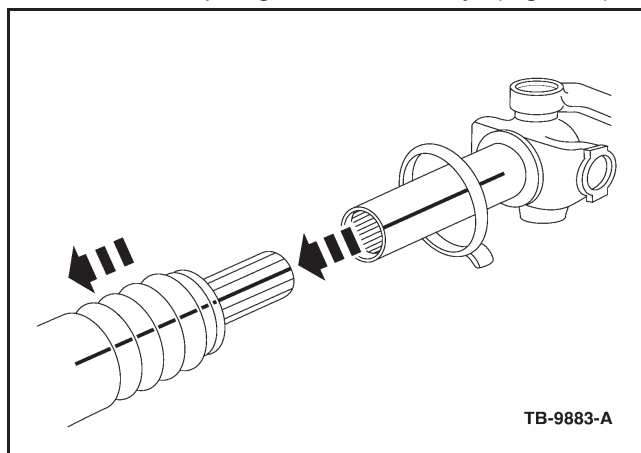

Figure 1 - Article 12-7-13
3. Mark a straight line down the slip yoke and driveshaft in line with front slip yoke boot clamp head, to help align for reassembly. (Figure 1)